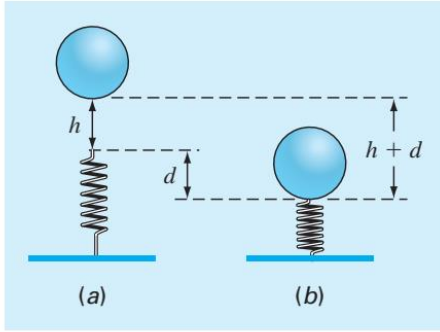

FIGURE P6.20
6.20 Real mechanical systems may involve the deflection of nonlinear springs. In Fig. P6.20, a block of mass m is released a distance h above a nonlinear spring. The resistance force F of the spring is given by